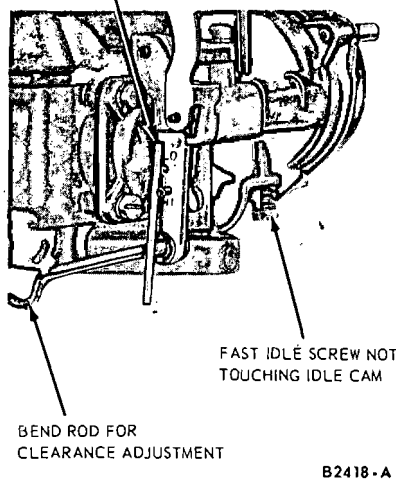

FIG. 35—Accelerating Pump Clearance Adjustment—Autolite Model 1100 1-V
1. Insert the roll pin in the lower hole position in the lever (Fig. 35).
linkage so that the throttle plate will seat in the throttle bore. Hold the throttle plates in the closed position. Position a gauge or drill of the specified thickness (Part 10-11) between the roll pin and the cover surface. Bend the accelerating pump actuating rod to obtain the specified gauge or drill clearance between the pump cover and the roll pin in the pump lever (Fig. 35).